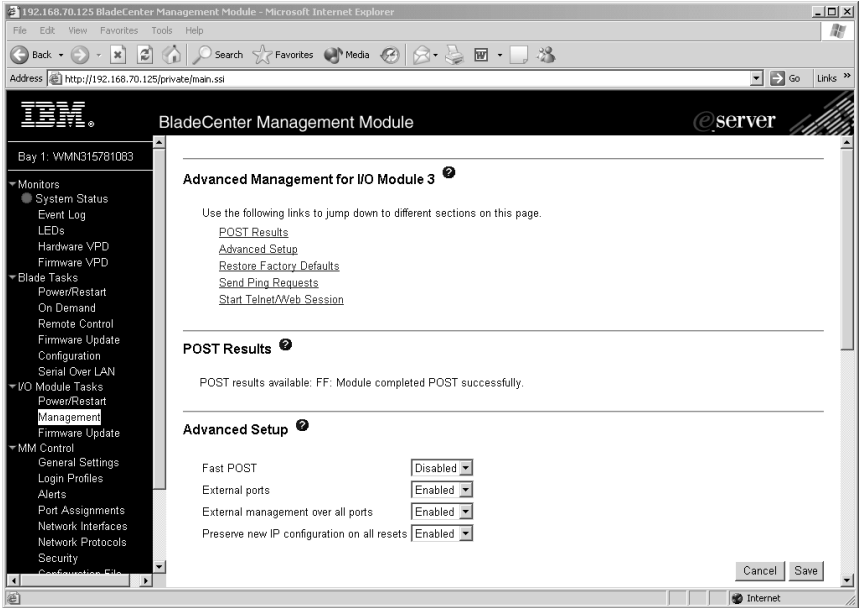

Figure 7. Switch Management window - advanced
7. Scroll down and click **Advanced Switch Management**. A window similar to the one in Figure 7 opens.